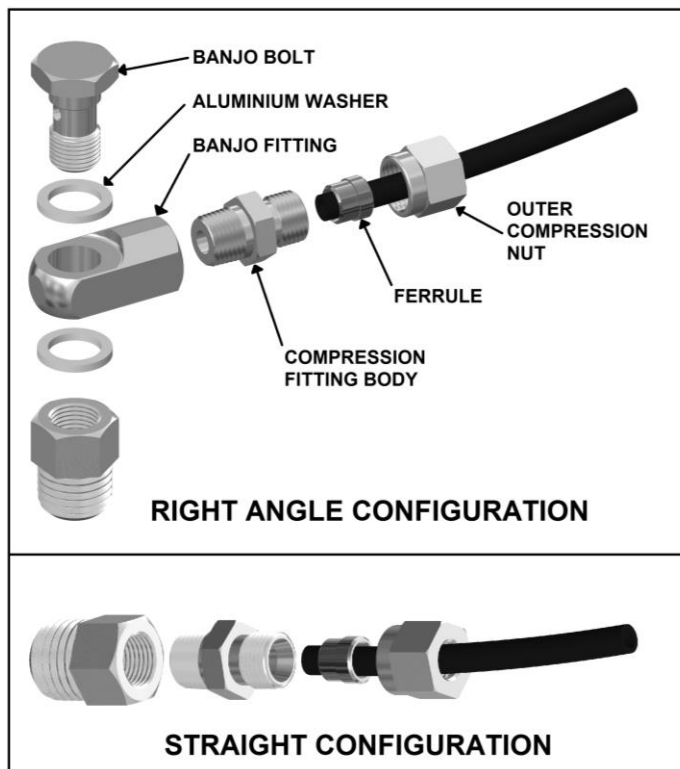

Figure 19.
- ☐ Assemble an aluminium washer onto the banjo bolt and insert through the banjo fitting. Assemble second aluminium washer and tighten into bulkhead fitting using a 14mm [9/16"] spanner. (Fig.19.)
- ☐ Insert the outer compression nut and ferrule over the air line. Ferrule should be orientated as per Fig.19.
NOTE : When right angle routing of the tube is not required, screw the compression fitting body straight into the bulkhead fitting body (Fig.19.).